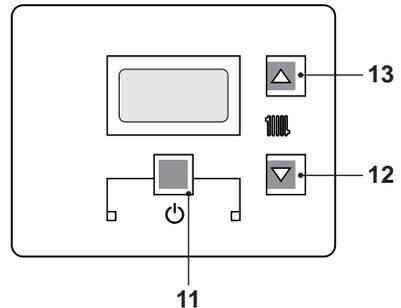
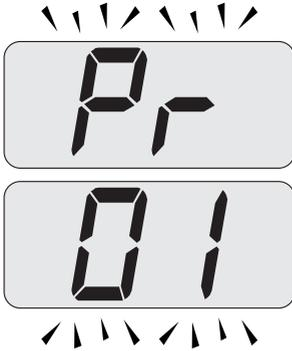
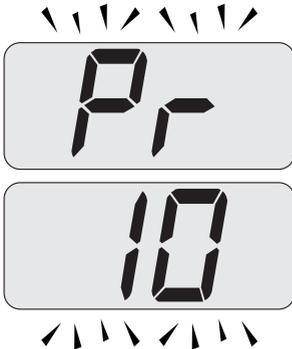

Fig. 7.31
Fig. 7.32
Fig. 7.33
- Enter the "programming mode" by pressing keys 11 - 12 - 13 (Fig. 7.31) for 10 seconds at the same time until the letters **Pr** that alternate with code **01** are displayed on the LCD display, indicating that "parameter 01" (Fig. 7.32) has been activated.
- Scroll the various parameters using keys 12 or 13 until the letters **Pr** that alternate with code **10** are displayed on the LCD display, indicating that "parameter 10"(Fig. 7.33) has been activated.
- Press keys 11 and 13 (Fig. 7.31) at the same time until the value of parameter 10 (30=180 seconds) is displayed on the LCD display (Fig. 7.34).
- By pressing key 11 (Fig. 7.31) confirmation of the inserted value is obtained.
- Press keys 11 and 12 (Fig. 7.31) at the same time to exit without changing the value (return to the parameters list Fig. 7.33)
- Press keys 11 - 12 - 13 (Fig. 7.31) at the same time for 10 seconds to exit the "programming mode".